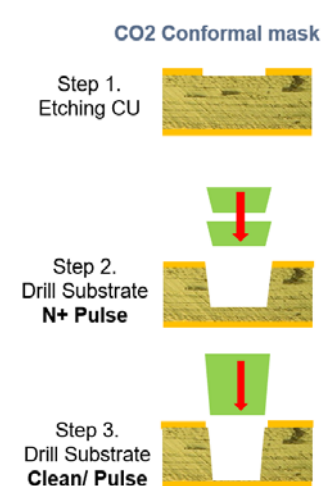

Figure 6: CO2 conformal mask process.
- **Conformal mask:** Copper is either pre-etched or the process is used on panels where no copper exists on the top layer (common in build-up processes) (Figure 6).